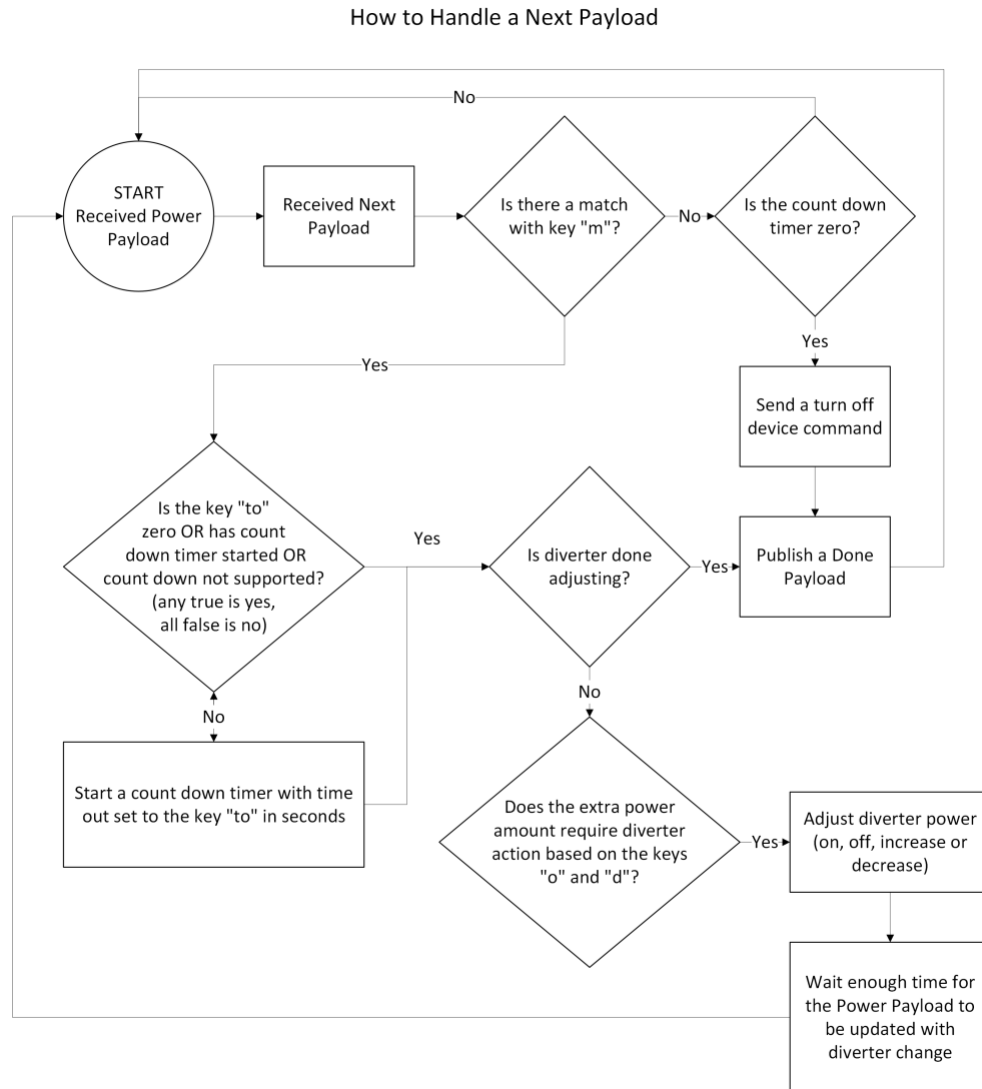

Figure 3
The keys “main”, “solar”, “gen”, “imp”, “exp” and “uprate” are not used for the power diverter. They are used for information purposes to display the power usage in other applications. The specific meaning of each one is in the operating manual for the Power MC. The only key that is relevant for the power diverter is the “extra” key. This number can be either positive or negative. If it is negative, then it means your device needs to conserve power. This can be achieved by adjusting it to use less power or turn off. If it is positive, it means your device needs to consume power. This can be achieved by turning on the power or adjusting it to use more power. The goal is to try to adjust your device so that the extra is as close to zero as possible when the PowerMC notifies your device it’s time to adjust (Figure 3).
This payload data is how your device knows when to respond to adjusting the power usage (Figure 3). Only respond if the key “m” has a string that matches your device’s key “mac” sent in the ID payload. For example, it can be the MAC address of your device. The key “idx” is the assigned index that the PowerMC has been assigned your device. Use the assigned index to indicate to the PowerMC that your device has completed its adjustment when sending the Done Payload. The key “o” (offset) is used to adjust the extra power usage as the target goal to this number. The key “d” (down scan) is used to determine if the adjustments are finished by understanding if the objective is to conserve or consume. A ‘1’ is to conserve and a ‘0’ is to consume which also dictates scan direction of each device with down being from lowest to highest priority. The key “to” used set a time out for the optional temporarily-on feature while waiting on a higher priority device to start using power. If it is 0, it means there is no time out. If it is non-zero, the number is the maximum number of seconds your device should remain on before turning off. Use the non-zero number to start a countdown timer. When the countdown timer reaches zero, send a turn off command to turn off your device regardless of the on/off state or if it is your device’s turn to act.
- Device's task completed data – Publish asynchronously when adjustment is finished by following the flow chart below (Figure 3).